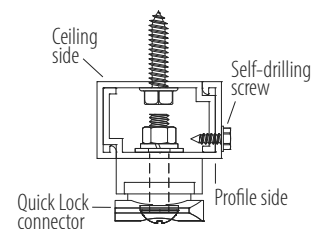

Figure 3b
- Secure installation rail assembly together with provided self-tapping screws. (Figure 3b)